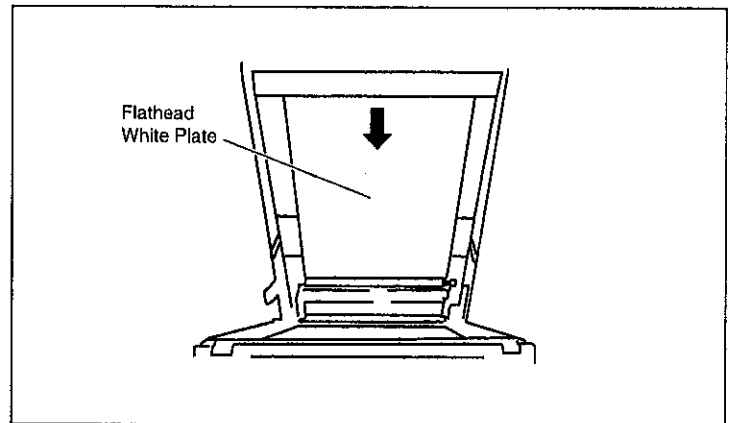

Fig. 8-7
- 1) Peel off Flathead White Plate, as shown in Fig. 8-7.